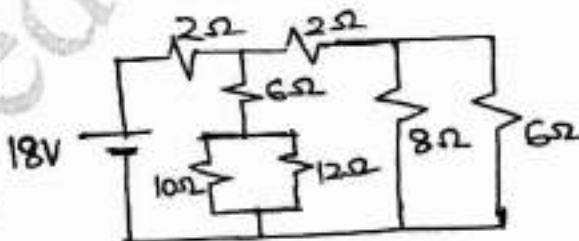

Fig.Q2(b)
- b. Using series-parallel reduction, calculate the current supplied by the source for the circuit shown in Fig.Q2(b).